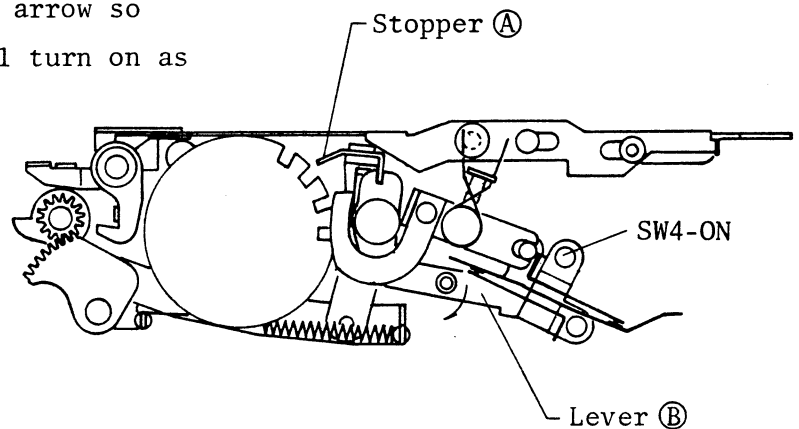

Fig.7
As the stopper ① in the slot of the film counter dividing device is detached, the lever ② moves in direction shown by the arrow so that the SW4 switch will turn on as shown in Fig. 7.